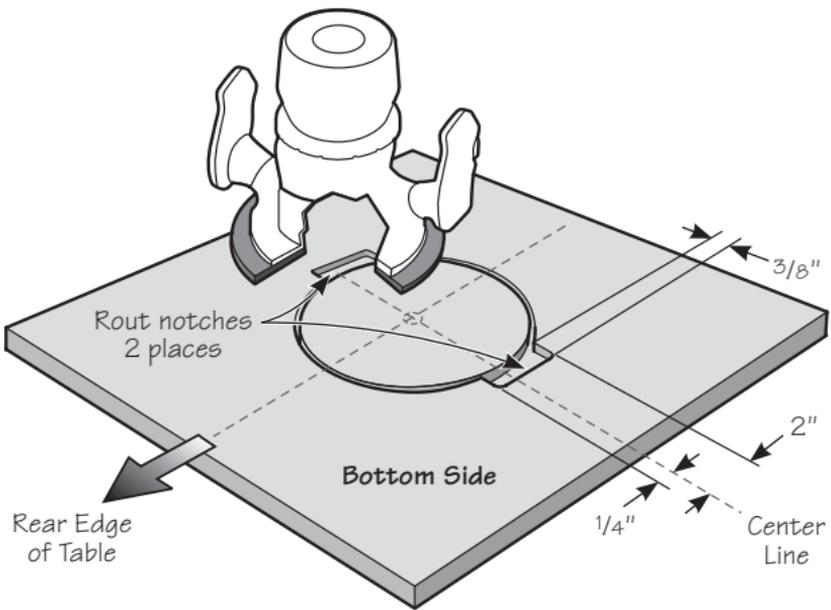

Figure 3: Notching the bottom side of the table top.
5. So the router base plate will be able to pass down through the hole in the table top, two notches must be cut through what will become the supporting ledge for the base plate. While the table top is still inverted, mark out both notch areas as shown in **Figure 3**. They should be located at two opposing points, extending $\frac{3}{8}$ "